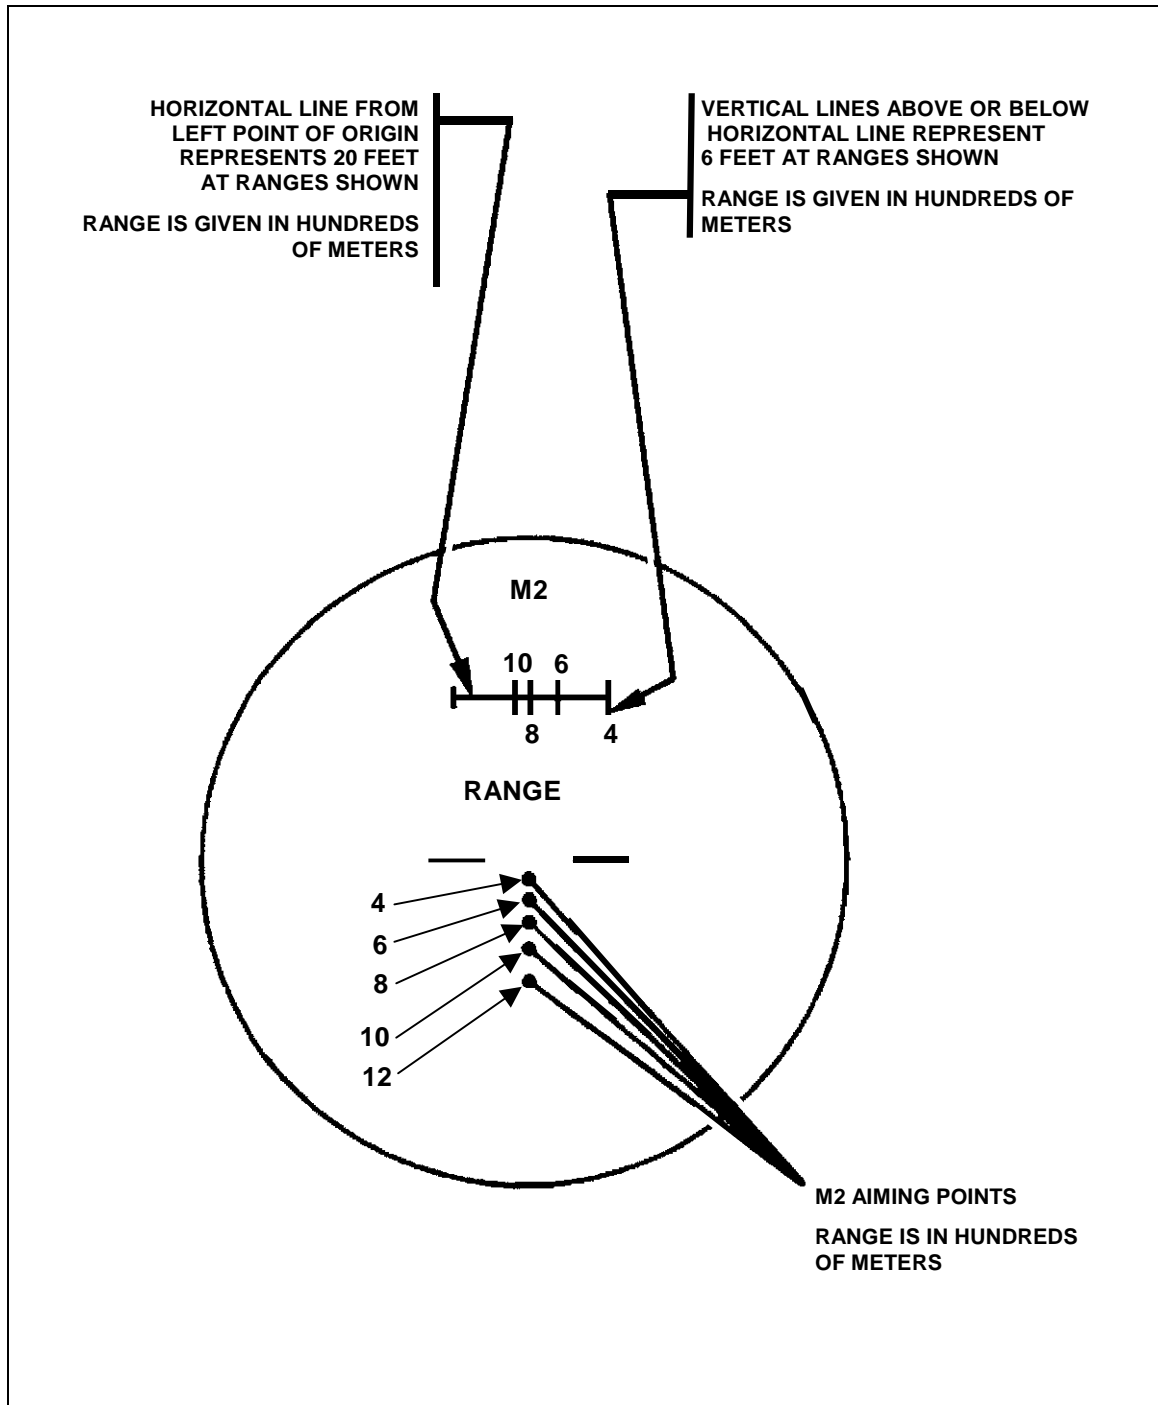
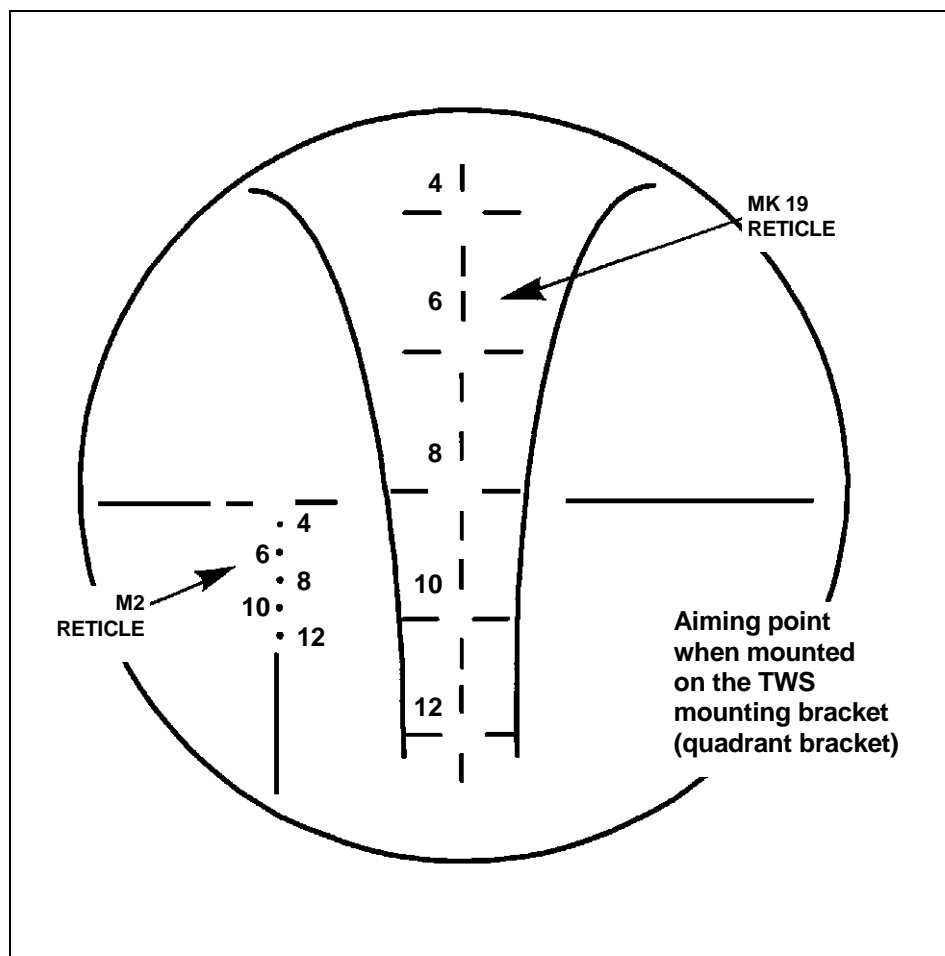

Figure G-6. Aiming points for the M2 (old reticle).
Figure G-7. Aiming points for the M2 (new reticle).
b. After determining range, use the aiming point designated for that range on the M2 reticle (Figure G-6, page G-12 [old reticle]; Figure G-7, page G-13 [new reticle]). If using the HWTS bracket and the M2 reticle, adjust the bracket to the nearest range determined and use the 800-meter aiming point. Use the M2 reticle only if the sight is mounted on the HWTS mounting bracket. Regardless of the range to the target, the 400-meter aiming point serves as the aiming point. Use the bracket to adjust for range.